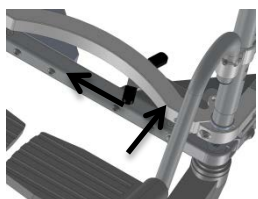

FIGURE 13
J.) The shuttle section is now ready to slide back onto the shower-stall section across the connector bridge. This is done by pulling back on the slider latch at the front base of the shuttle and simultaneously pushing the shuttle frame towards the shower-stall section, see Figures 13 and 14.